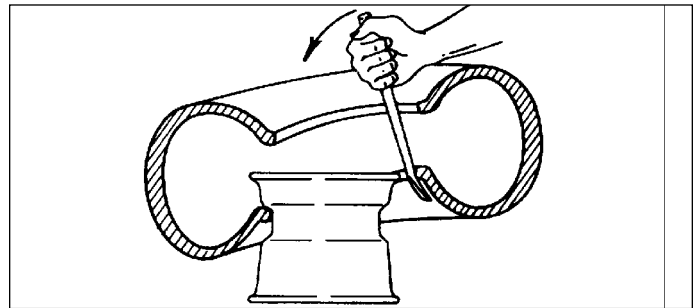

Figure 13 - Remove Tire
6. With valve stem side up, carefully start upper bead for edge of rim with tire tool. See Figure 13.